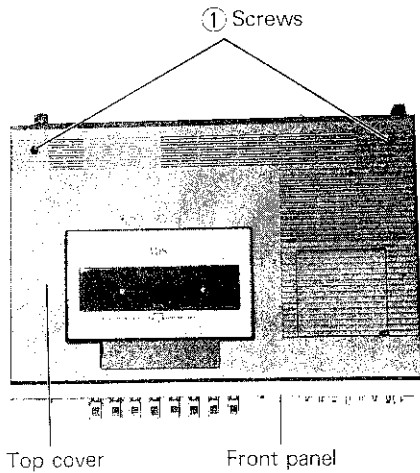

Fig. 4-1
1. Remove the two screws ① on the top cover as shown in Fig. 4-1. Then lift the top cover.